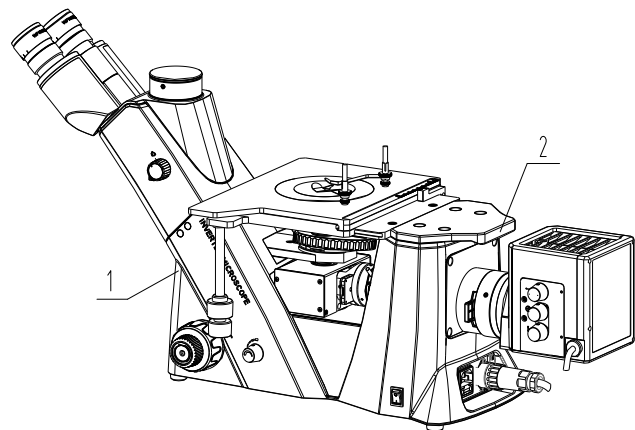

Figure-2 Carrying
- Following the **Figure-2** step to move the instrument, make sure the sample is taken away. Use one hand holding ① position, the other hand holding ② position.
5. Please follow Figure-2 to carry microscope